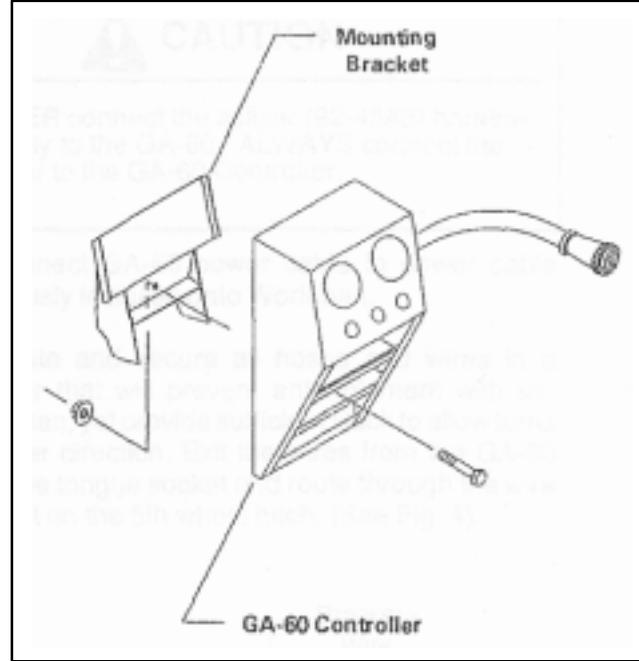

Figure 1
MOUNT GA-60 CONTROLLER (Fig 1 & 2)
1. Mount the GA-60 controller to the mounting bracket using (1) 3/8" x 1-1/2" bolt and flanged lock nut. (See Fig. 1)